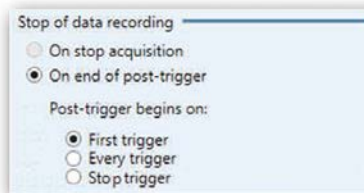

Figure 9.11: Stop of data recording
- E Define how a recording or sweep should be stopped (see Figure 9.11).